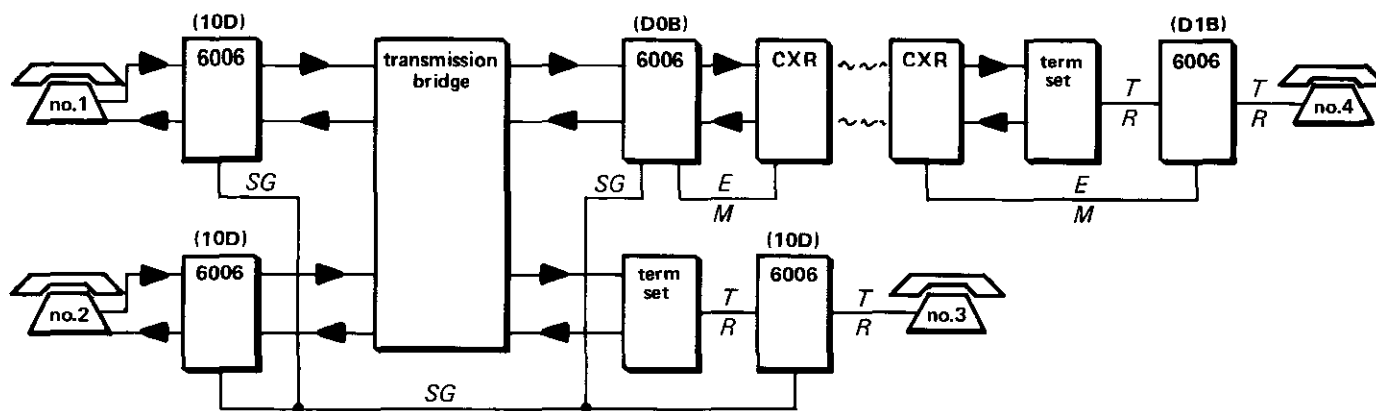

figure 2. Typical application of 6006's
2.03 Figure 2 shows a typical application in which five 6006 modules using SG-lead and E- and M-lead signaling are involved. Any station may signal all other stations by **applying ringing-voltage signaling to the facility**. The ringing voltage is applied at the station by means of a manual key.